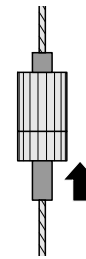

Fig. 2
8. Adjusting the wire cable length on the canopy: Press circlips to lengthen (Fig. 2) – only lengthen wire cables gradually, one at a time. Before trimming any excess wire, slide the ends of the wire cable.